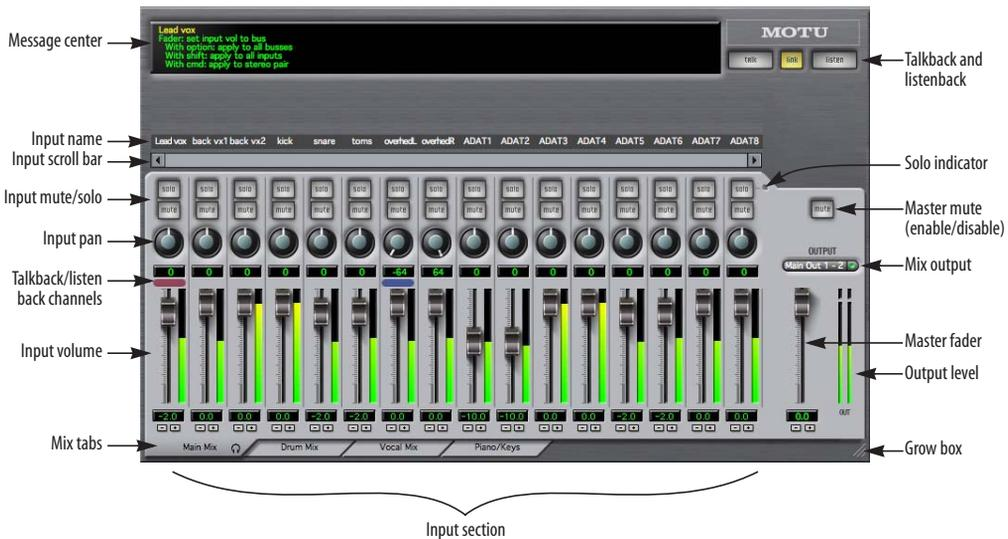

Figure 11-1: MOTU CueMix Console is a virtual mixer that gives you control over the 8pre's on-board mixing features.
CueMix Console displays one mix at a time. To select which mix you are viewing, click its tab at the bottom of the window, as shown in Figure 11-1. The mix name appears in the tab. Double-click the name to change it.
To view a mix, click its tab at the bottom of the window, as shown in Figure 11-1. The mix name appears in the tab.
The master mute button (Figure 11-1) temporarily disables (silences) the mix.
The master fader (Figure 11-1) controls the overall level of the mix (its volume on its stereo output). Use the individual input faders to the left to control individual input levels.
To add an input to a mix, or remove it, click its MUTE button. To solo it, use its SOLO button. To toggle these buttons for a stereo pair, hold down the control key while clicking either channel. The Solo indicator LED (Figure 11-1) lights up when any input is soloed (including inputs that may currently be scrolled off-screen).
Use the input fader and pan knob (Figure 11-1) to adjust these settings for the input in the mix. Again, all settings within the gray-shaded channel strip area belong to the mix currently being viewed. Note that an input can have different settings in different mixes.
- 1 Select the source mix (Figure 11-1) and choose Copy from the file menu (or press control-C).